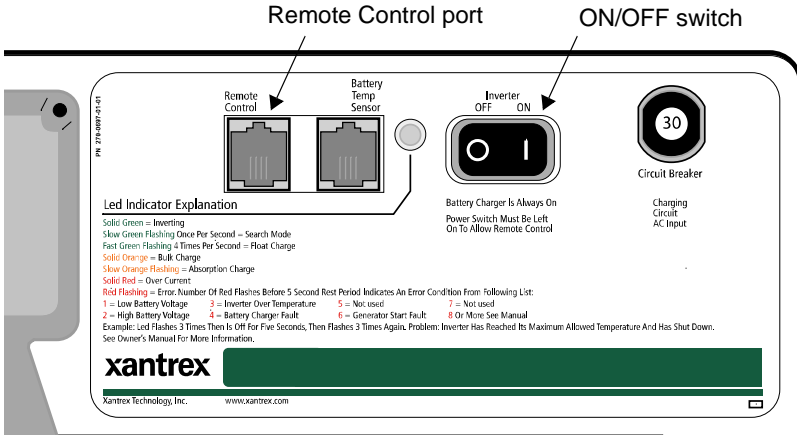

Figure 2-2 RV Series Inverter/Charger Front Panel
5. Connect the communications cable into the RJ11 port on the inverter/charger marked “Remote Control” (Figure 2-2).